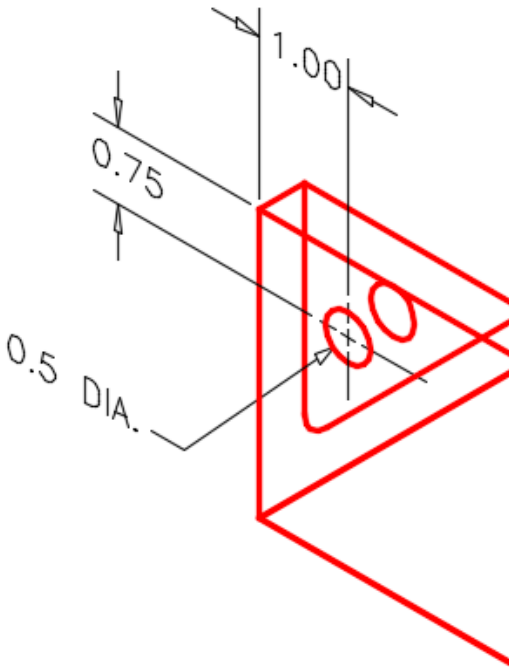

Figure Step 5A
Step 5 Using the figures as a reference, draw the circle and then copy it to create a hole through the Front view. (Figure Step 5A, 5B, and 5C)